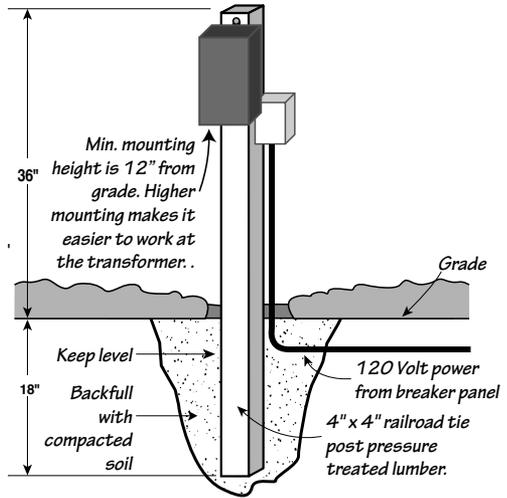

Fig. 3. Transformer Stand
d. Transformer can be mounted indoors or outdoors. Outdoor installation can be accomplished by mounting the transformer to the side of a building (but not on vinyl siding), on the fence itself, or with use of a transformer mounting stand (Fig. 3, p. 7).